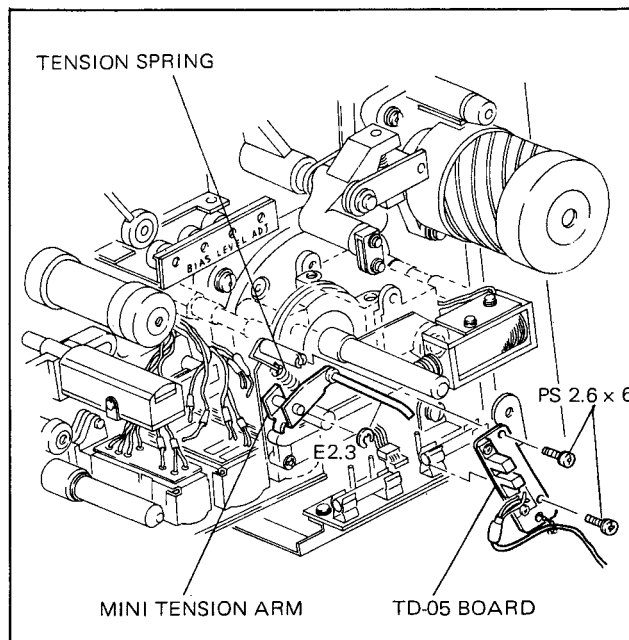

Fig. 3-45. Mini Tension Arm Replacement
- Remove the E ring holding the mini tension arm and remove the one end of the spring shown in Fig. 3-45. Replace for the new mini tension arm, apply the spring and reinstall the E ring.